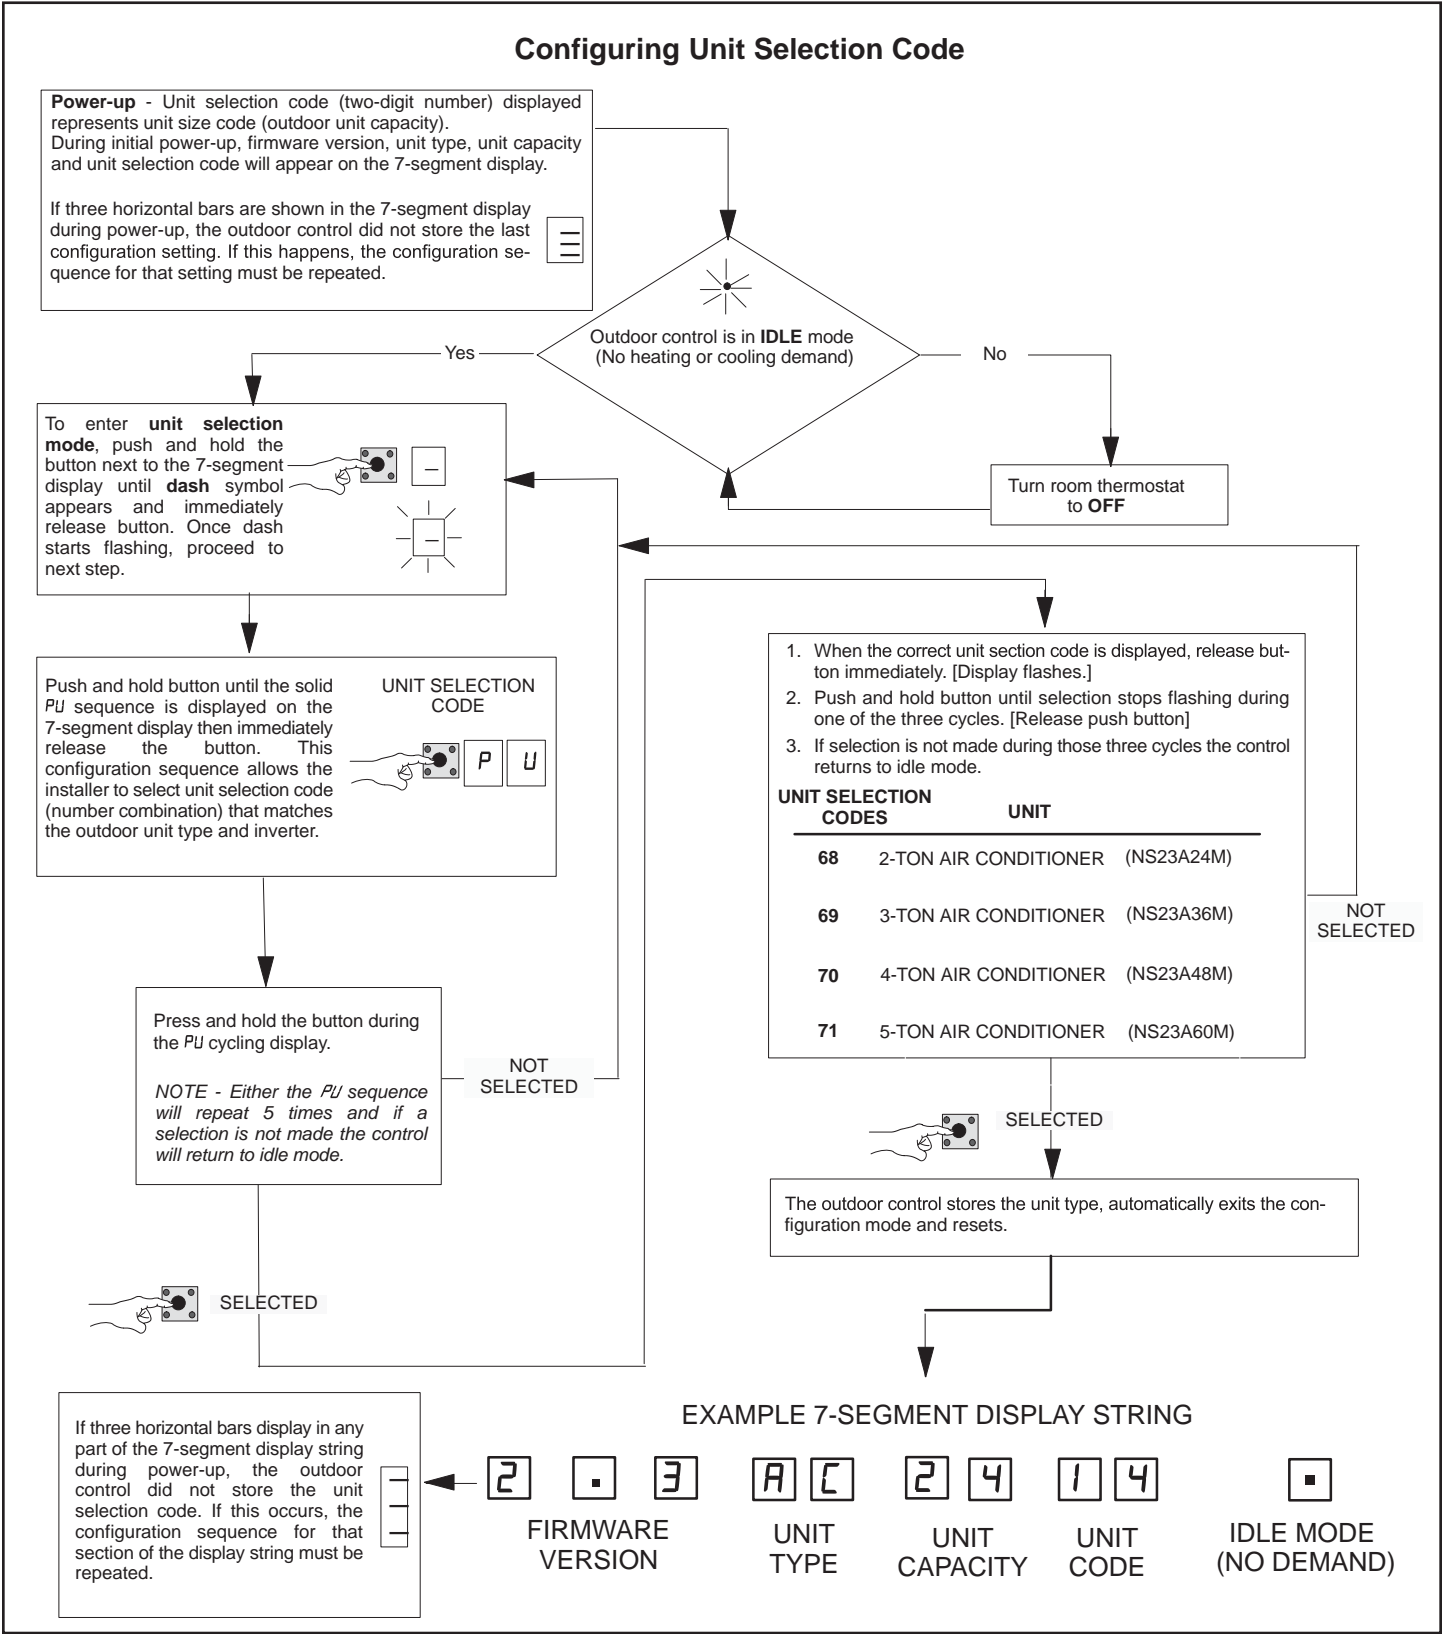

Figure 23. Configuring Unit Selection Code
If the single-character display shows three (3) horizontal lines, the unit selection code needs to be programmed. Press and hold the button until the P U menu option is displayed, release button. The single-character display displays the selected mode per example in Figure 23 on page 51. When the desired unit selection code appears, press and hold the button until it stops flashing, then release.